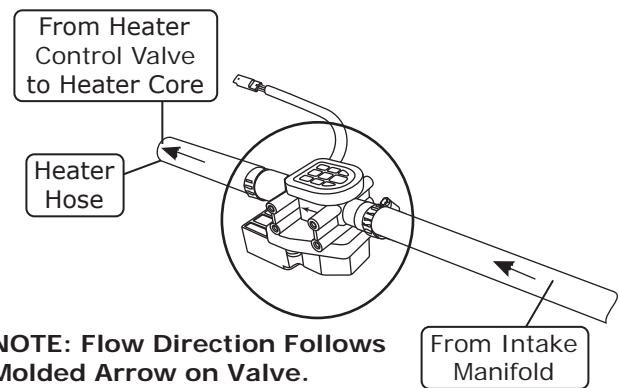

Figure 1
2. Cut a length of heater hose approximately 4" to 5" from the firewall cover, then install it onto the upper heater hardline. Install the heater control valve and secure it with (2) hose clamps (See Photo 3, below). **NOTE: Ensure proper flow direction through the heater control valve. The flow direction follows the molded arrow on the valve (See Figure 1, below).**
3. Install another length of heater hose from the heater control valve to the intake, then secure it with (2) hose clamps (See Photos 4 and 5, below).